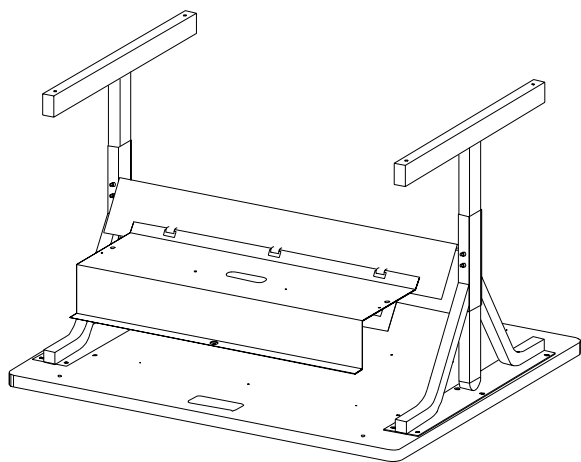

FIGURE 1
Turn table over and remove modesty panel assembly (**FIGURE 1**). Attach the straight tubes (with threaded plastic insert) to the back edge of the table with screws (AA) provided as shown in **FIGURE 2**. Reattach modesty panel and stand unit upright.